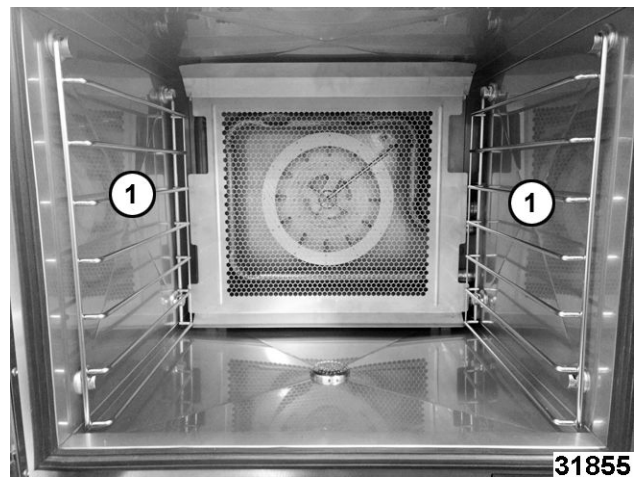

Fig. 83
- Remove left and right rack guides (1, Fig. 83).